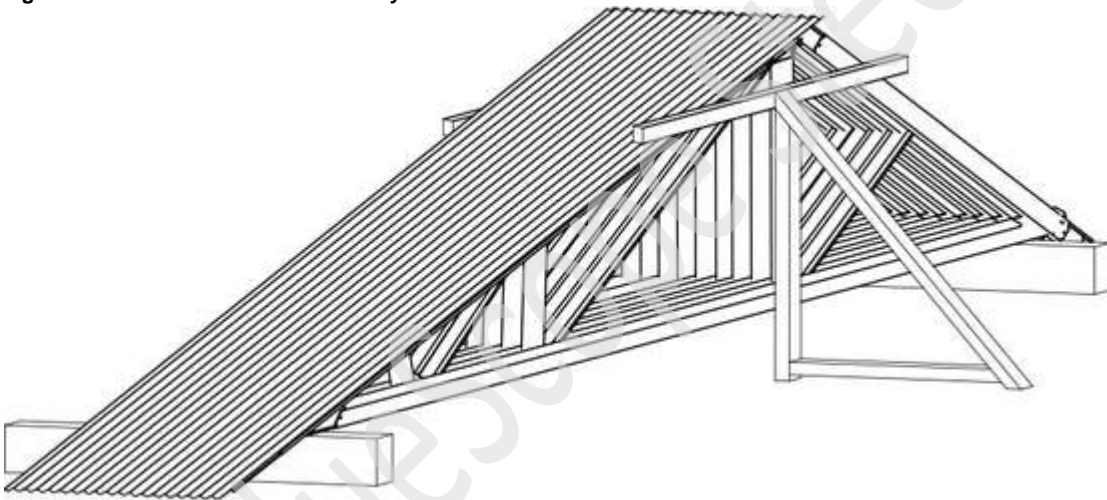

Figure 2.3 Trusses stacked vertically
2. If the trusses are stored vertically as shown in **Figure 2.3**, they should be supported at the designed support locations or bottom chord panel points, and in a manner that will be prevented from tipping or toppling.